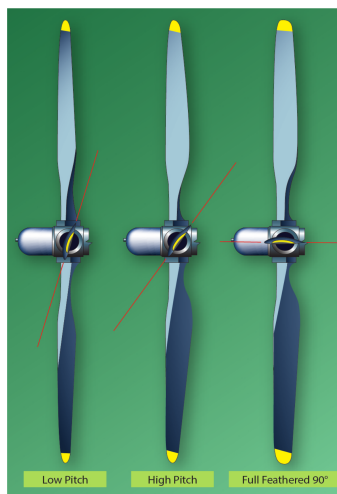
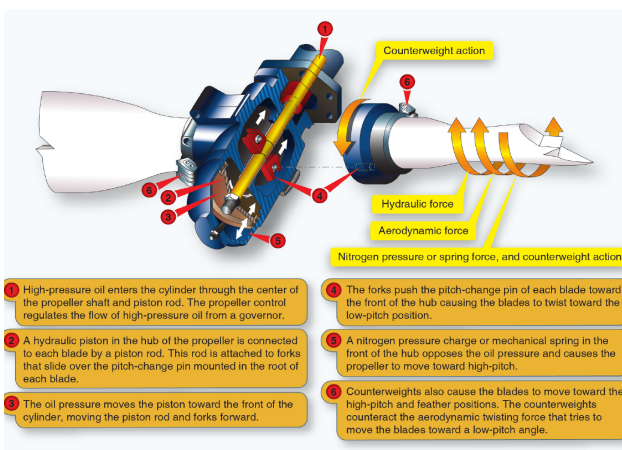
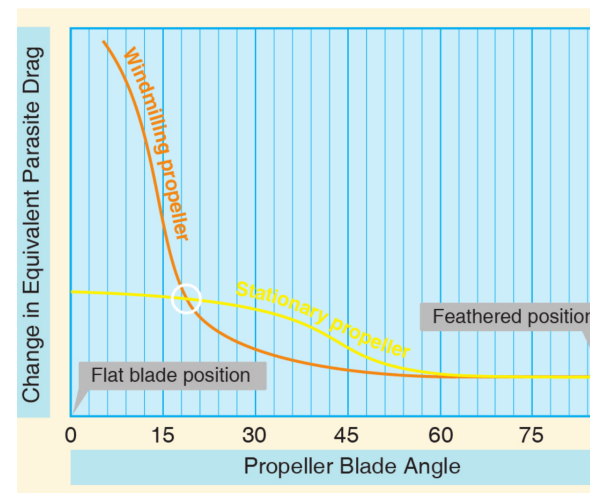

Figure 13-2. Feathered propeller.
Figure 13-4. Pitch change forces.
Figure 13-3. Propeller drag contribution.
AFH Fig 13-2 — Feathered Propeller
AFH Fig 13-4 — Pitch Change Forces (Internal Mechanism)
AFH Fig 13-3 — Propeller Drag Contribution
- (15 min)** Windmilling vs feathering: Fig 13-3 first (the drag chart), then Fig 13-2 (blade angles), then Fig 13-4 (mechanism).